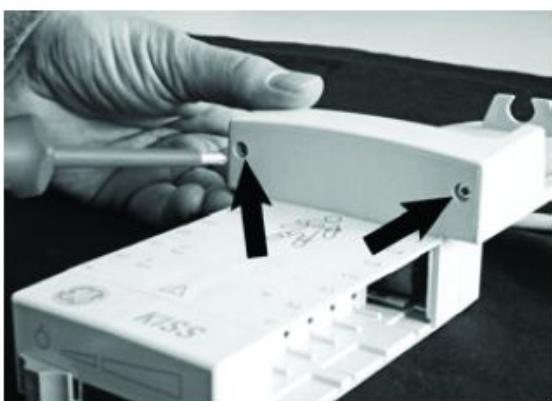
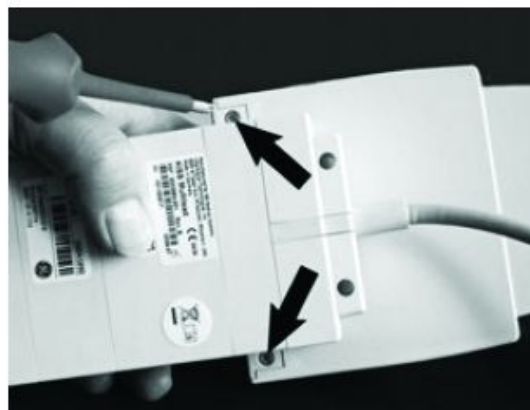
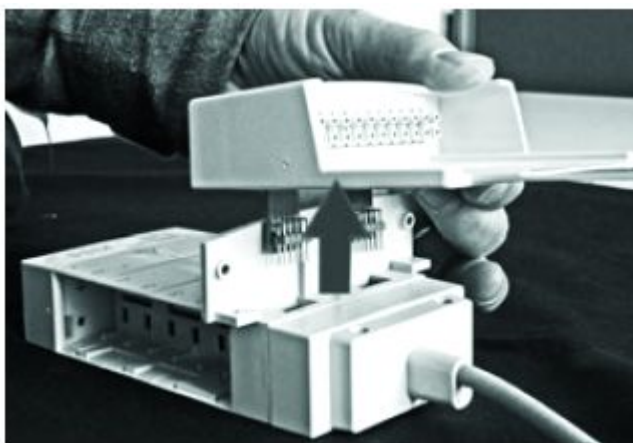
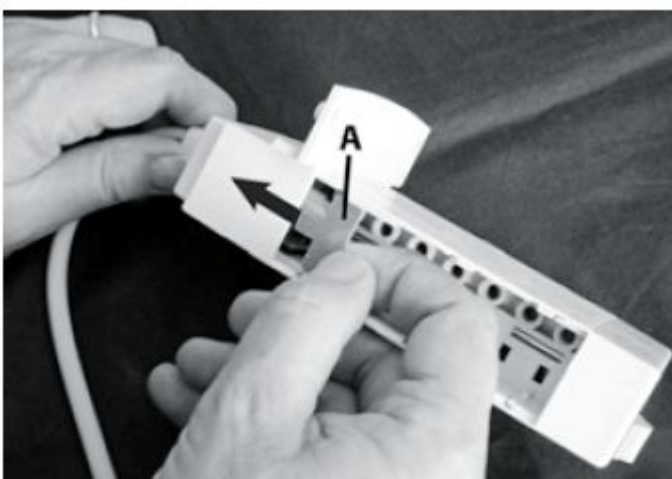

Figure 1
Figure 2
Figure 3
Figure 11
- Remove all electrode leads from the distributor block and loosen the screws as shown on figure 1 and figure 2.
- Slide the two locking plates (A) into the distributor block (see figure 11). Carefully connect the CAM-14 mounting unit (see figure 3) to the distributor block and tighten the four screws (see figure 1 and figure 2). Connect all electrode leads to the distributor.